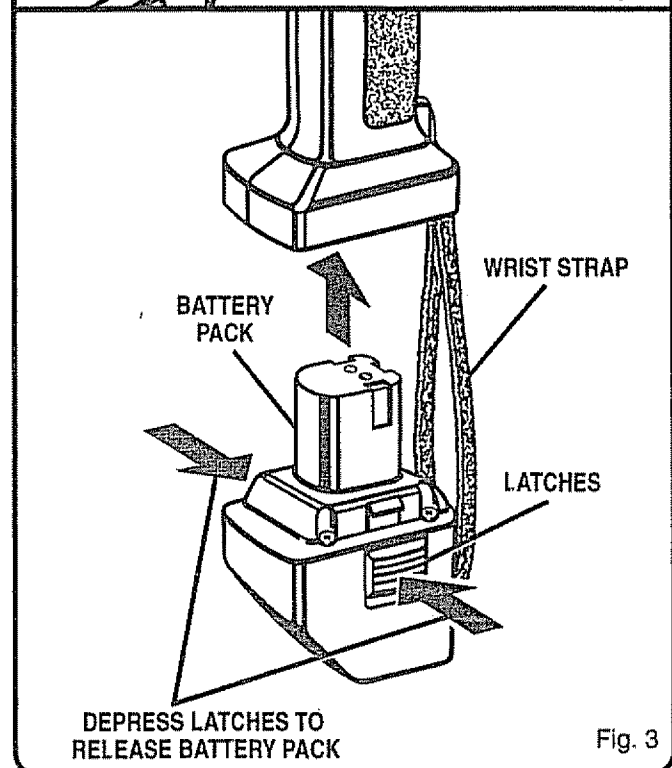

Fig. 3
- Orient battery pack so that terminals on battery pack align with terminals in drill housing. Insert battery pack in drill. *See Figure 3.*
- Locate latches on end of battery pack and depress to release and remove battery pack. *See Figure 3.*